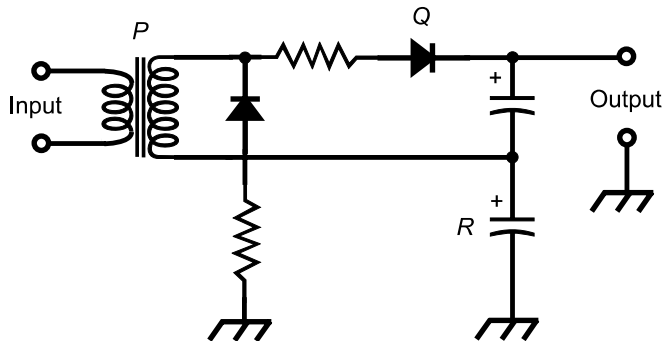

Fig. Exam-3. Illustration for Final Exam Questions 29 through 32.
29. Figure Exam-3 is a schematic diagram of
30. In the circuit of Fig. Exam-3, what is the function of the component labeled *P*?
31. In the circuit of Fig. Exam-3, what is the function of the component labeled  $Q$ ?
32. In the circuit of Fig. Exam-3, what is the function of the component labeled  $R$ ?